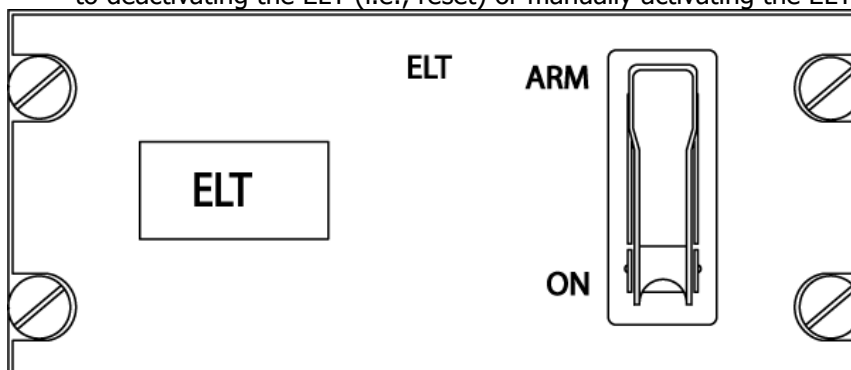

Figure 31 Remote Switch Control Panel Assembly
- 1) The control panel is backlit panel comprised of an ELT status indicator light and a control switch, which allows an operator to manually activate the ELT for testing and reset (i.e., deactivate) the ELT. See Figure 31 Remote Switch Control Panel Assembly.